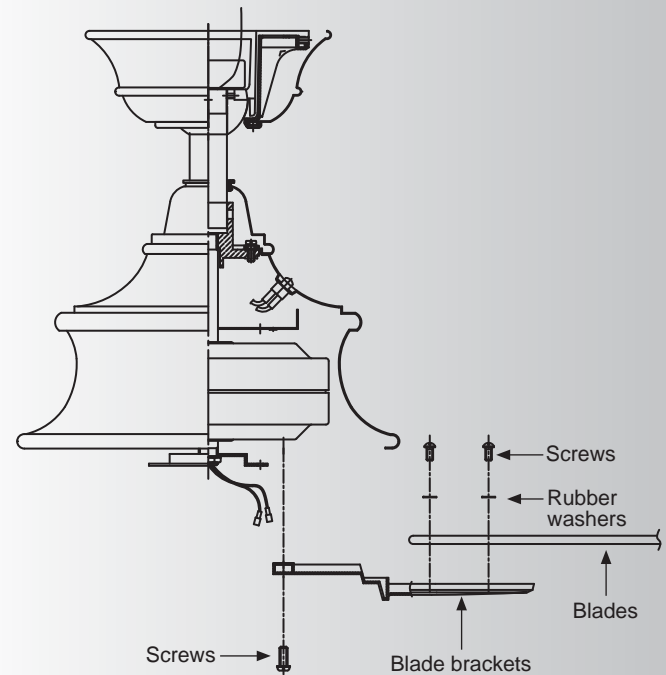

Fig. 16
Step 1. Attach a blade to a blade bracket using the screws and rubber washers provided. (Fig.16)
Step 2. Attach each blade assembly to the motor using the "Pre-Installed" mounting screws in the blade bracket. (Fig 16)